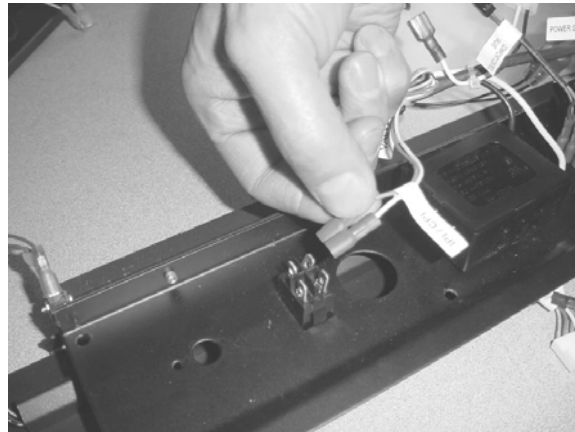

Figure 7
- 7 Disconnect the two leads on the back of the control panel for the IPI / CPI switch (continuous pilot / greensmart pilot – see Figure 7).